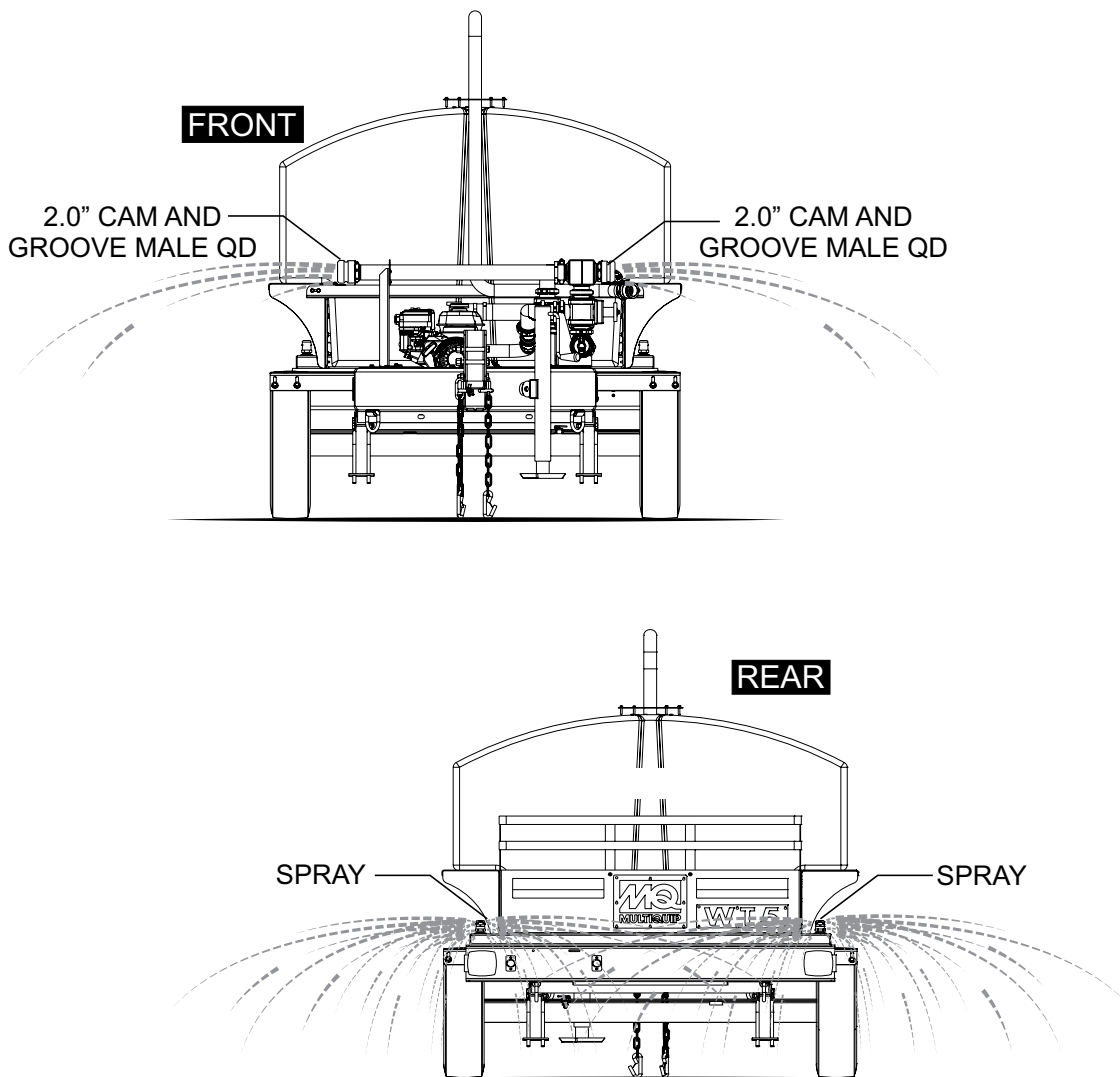

Figure 20. Discharging Water
3. Figure 20 represents a typical water discharge application utilizing the rear spray bar.